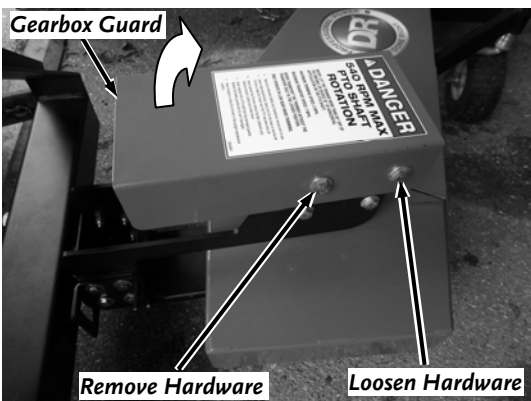

Figure 7
1. Remove the front Bolt, Washers and Locknut from the Gearbox Guard with two 11/16" Wrenches (**Figure 7**).